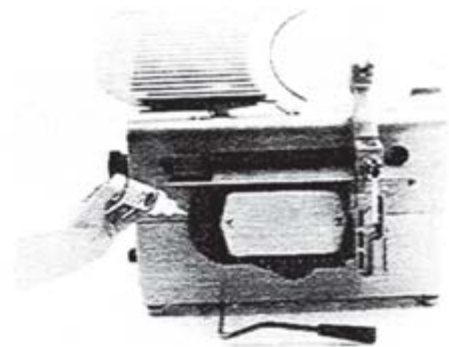

Figure 23-3
2. Pull off cap to open Globe Oil container. Apply oil to each chain link. Wipe off excess oil. (Fig. 23-3)